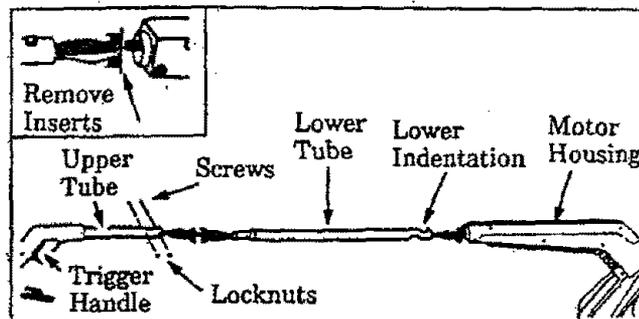

Figure 1
1. Remove and discard the plastic inserts (3) found in the tubes. Figure 1 (inset).
3. Locate the two indentations at the end of the lower tube. Align the lower indentation with the motor housing as shown in Figure 1.
4. Insert the lower tube into the upper tube (Figure 1) and align screw holes.
5. Insert the two screws, one at a time, through the aligned holes. Figure 1. Thread locknut onto screws and tighten securely.